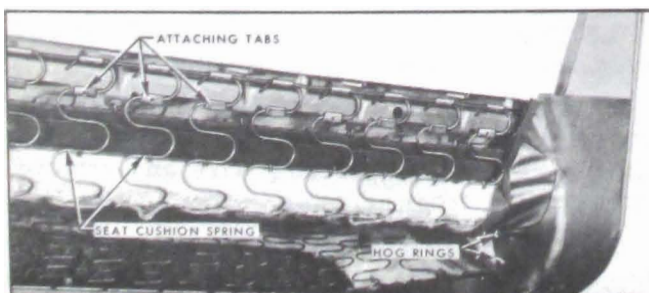

Figure 13-58 — Front Seat Cushion Spring Attachment
attachment to seat back frame along rear of seat and hog rings securing ends of seat back trim to seat bottom frame. See Figure 13-58.
4. Bend open tabs securing seat cushion spring assembly to seat back frame and carefully disengage springs from tabs. See Figure 13-58.